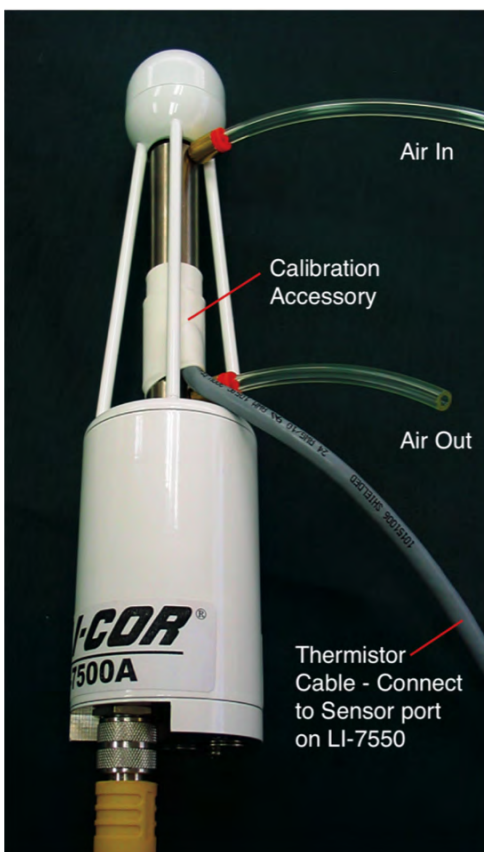

Figure 5-1. Flow calibration gas into either port.
4. Flow CO2-free air through the calibration accessory at a rate of about 0.5 to 1.0 LPM. Attach the zero gas to the calibration fixture at one of the ports shown in Figure 5-1. The calibration accessory has quick connect fittings for use with standard 1/8" I.D. Bev-a-line (or other) tubing.